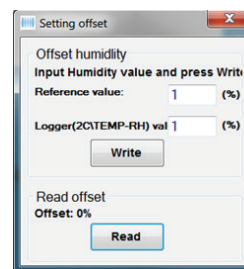

FIGURE 14
- 2.7.1. Setting offset, see Fig. 14